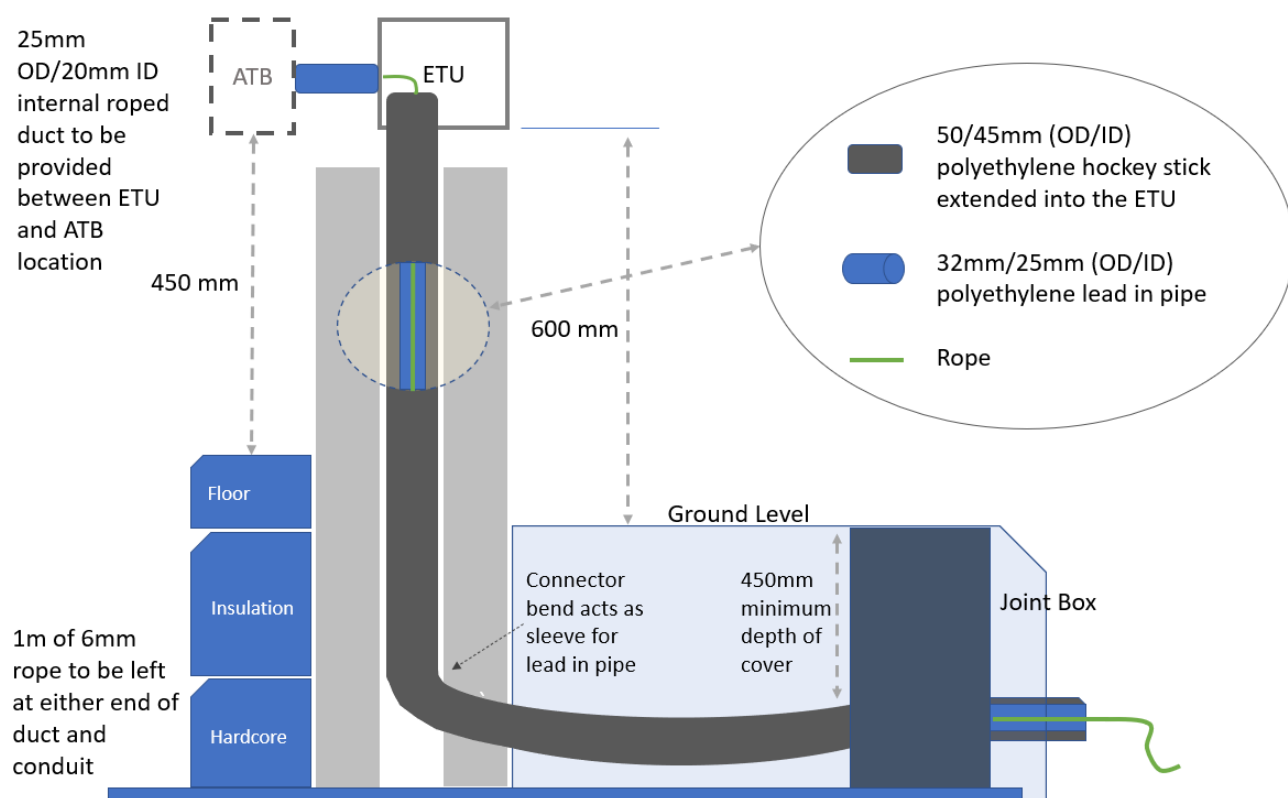

Figure 3: Technical specification for ETU installation
- The duct must extend into the ETU (Figure 3)
Where a new building or premises is being built, an ETU should be inserted into the external wall at a convenient location in accordance with the building specification shown below in Figure 3: